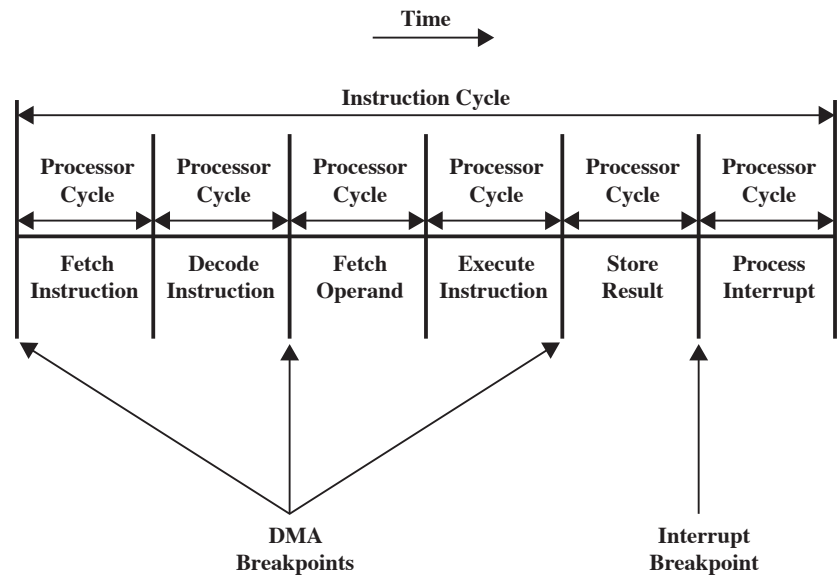

Figure 7.13 DMA and Interrupt Breakpoints During an Instruction Cycle
- DMA/breakpoints – Figure 7.13, 7.15